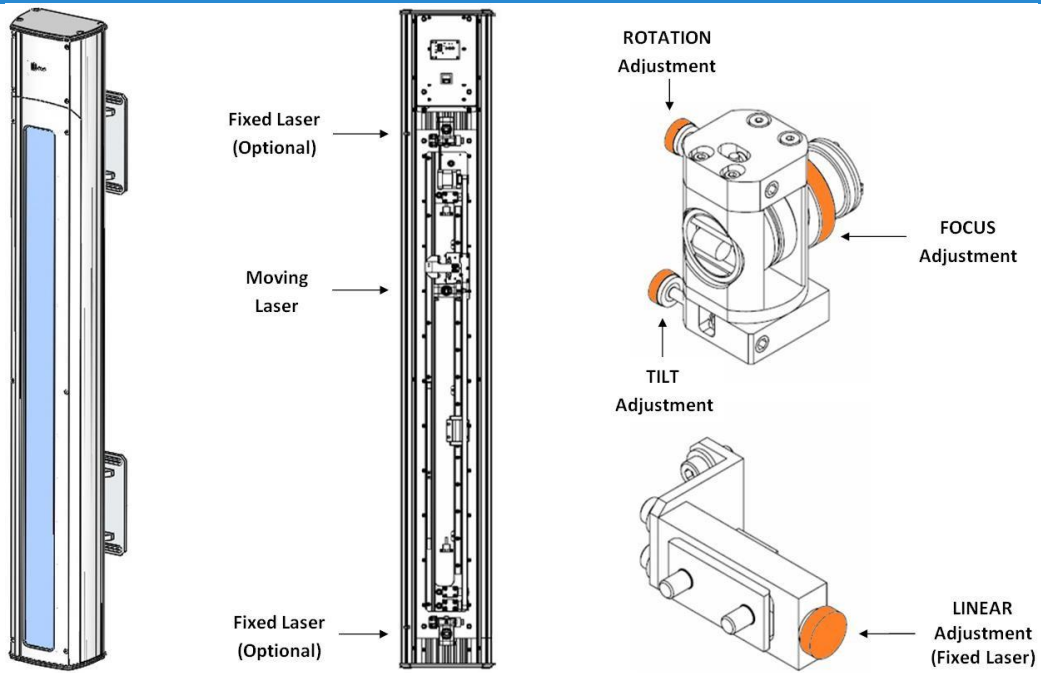

Figure 4.2 Lasers layout and adjustments
- **Moving laser:** The line perpendicular to the long axis of the Maxx-1100-unit frame is generated by a diode that can be moved along the long axis of the actuator. It has a linear movement of +/-300mm from laser travel zero. (Figure 4.2)
- **Fixed laser:** The line parallel to the long axis of the Maxx-1100-unit frame is generated by a laser diode that is fixed in position at one end of the actuator. It also has a manual linear adjustment of +/-10mm from the center point. (Figure 4.2)
Proper alignment of the laser lines requires precise adjustment of the laser lines within the confines of the treatment room. Two adjustments are possible for each laser diode, namely, tilt adjustment and rotation adjustment. (Figure 4.2)
Tilt adjustment allows the laser line to pivot from end to end for the moving laser, adjusting the positioning relative to the moving axis of the Maxx-1100 unit, and side to side for the fixed laser relative to the moving axis of the Maxx-1100 unit. (Figure 4.2)
For the moving laser the rotation adjustment alters the angle of the laser line to be parallel to the moving axis of the Maxx-1100 unit by rotating the laser diode. The rotation adjustment alters the fixed laser line angle so that it is perpendicular to the moving laser. (Figure 4.2)